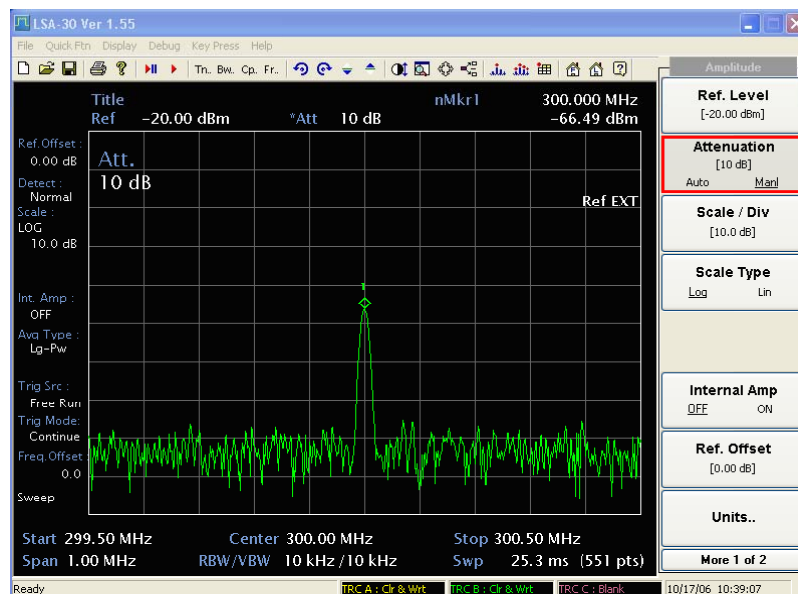

Fig. B-13 Low-level signal with 10 dB attenuation
- 9 Press [AMPL], [Attenuation Manl]. Press the step-up key ( $\blacktriangle$ ) to select 10 dB attenuation. Increasing the attenuation moves the noise floor closer to the signal. See Fig. B-13. A '\*' appears next to the ATT annotation at the top of the display, indicating that the attenuation is no longer coupled to other analyzer settings.